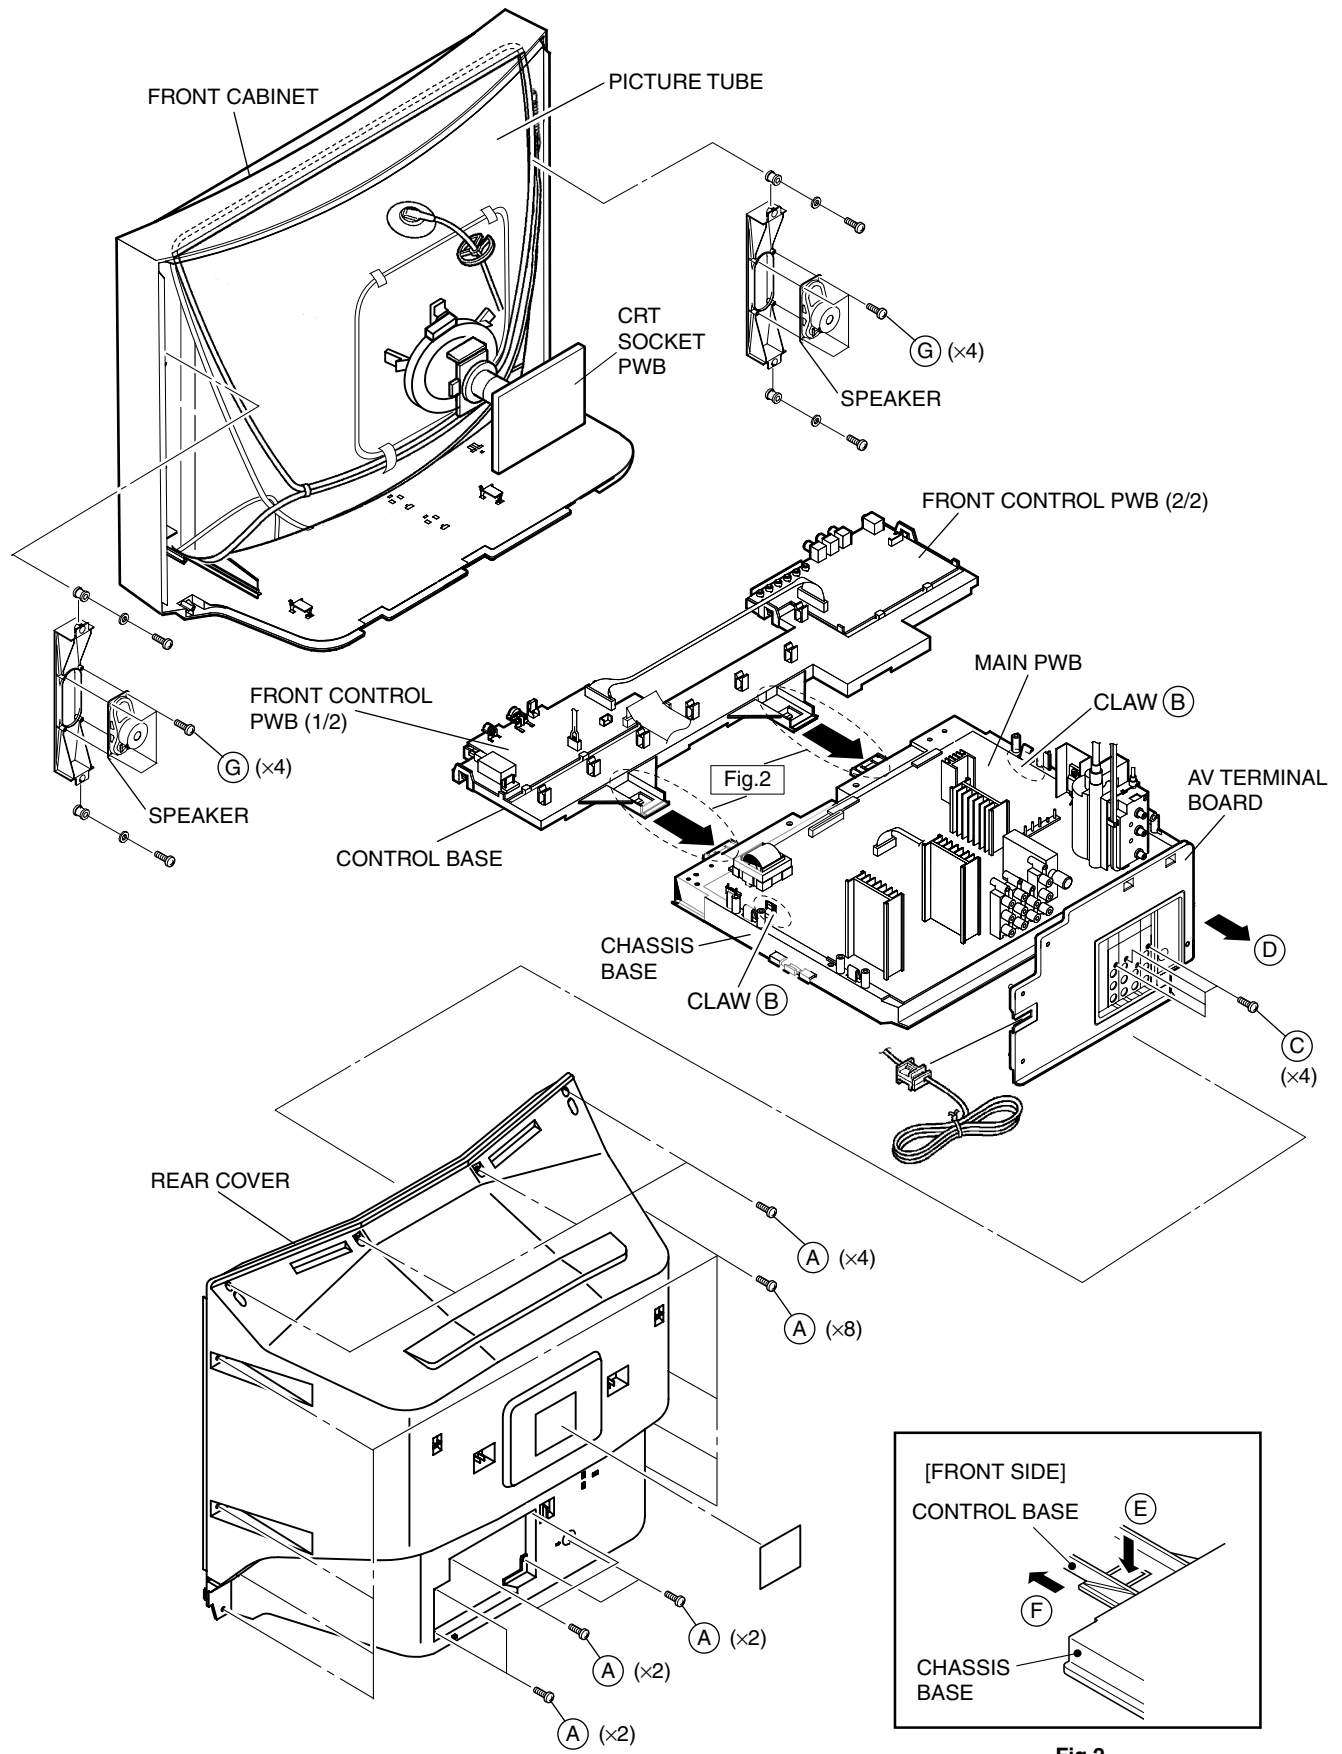

Fig.1
1. Remove the 4 screws marked (C) as shown in Fig.1.
2. When you pull out the AV Terminal board in the direction of arrow marked (D) as shown in Fig.1, it can be removed.
1. Remove the 4 screws marked (G) as shown in Fig.1.